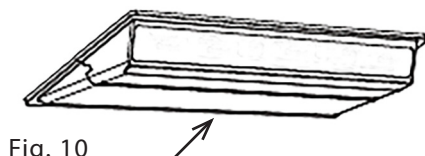

Fig. 10
1. Please move the cover and the thermostat out $1\frac{1}{16}$ " - $1\frac{3}{16}$ " (3-5 mm) in the direction of the arrow (Fig. 10).